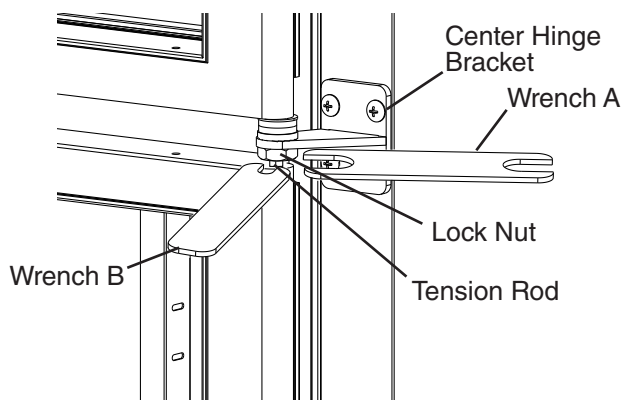

Fig. 53
- 3) At the center hinge, place wrench B on the tension rod and hold (prepare for tension pressure), then using wrench A, loosen the lock nut. See Fig. 53.